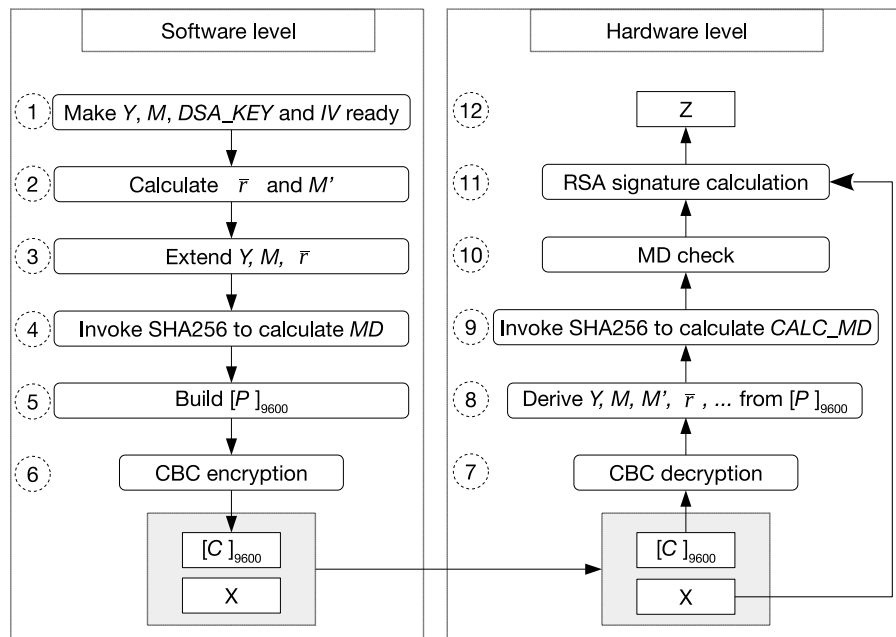

Figure 24.3-1. Software Preparations and Hardware Working Process
1. The software preparation (left side in Figure 24.3-1) is a one-time operation before any signature is calculated, while the hardware calculation (right side in Figure 24.3-1) repeats for every signature calculation.
Users need to follow the steps shown in the left part of Figure 24.3-1 to calculate C . Detailed instructions are as follows:
1. Decryption: Step 7 and 8 in Figure 24.3-1
The decryption process is the inverse of Step 6 in Figure 24.3-1. The DSA module will call the AES accelerator to decrypt C in CBC block mode and get the resulting plaintext. The decryption process can be represented by $P = \text{AES-CBC-DEC}(C, DSA_KEY, IV)$, where IV (i.e., $[IV]_{128}$) is defined by the user. $[DSA_KEY]_{256}$ is
2. Check: Step 9 and 10 in Figure 24.3-1
The DSA module will perform two checks: MD check and padding check. The padding check is not shown in Figure 24.3-1, as it happens at the same time as the MD check.
3. Calculation: Step 11 and 12 in Figure 24.3-1